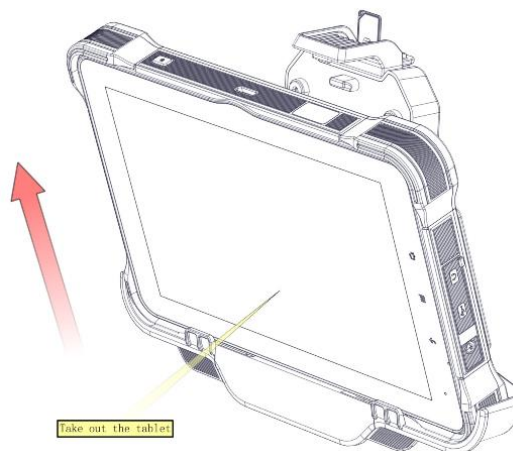

Fig. 4-7
2. Take out the device as Fig.4-7 shown.